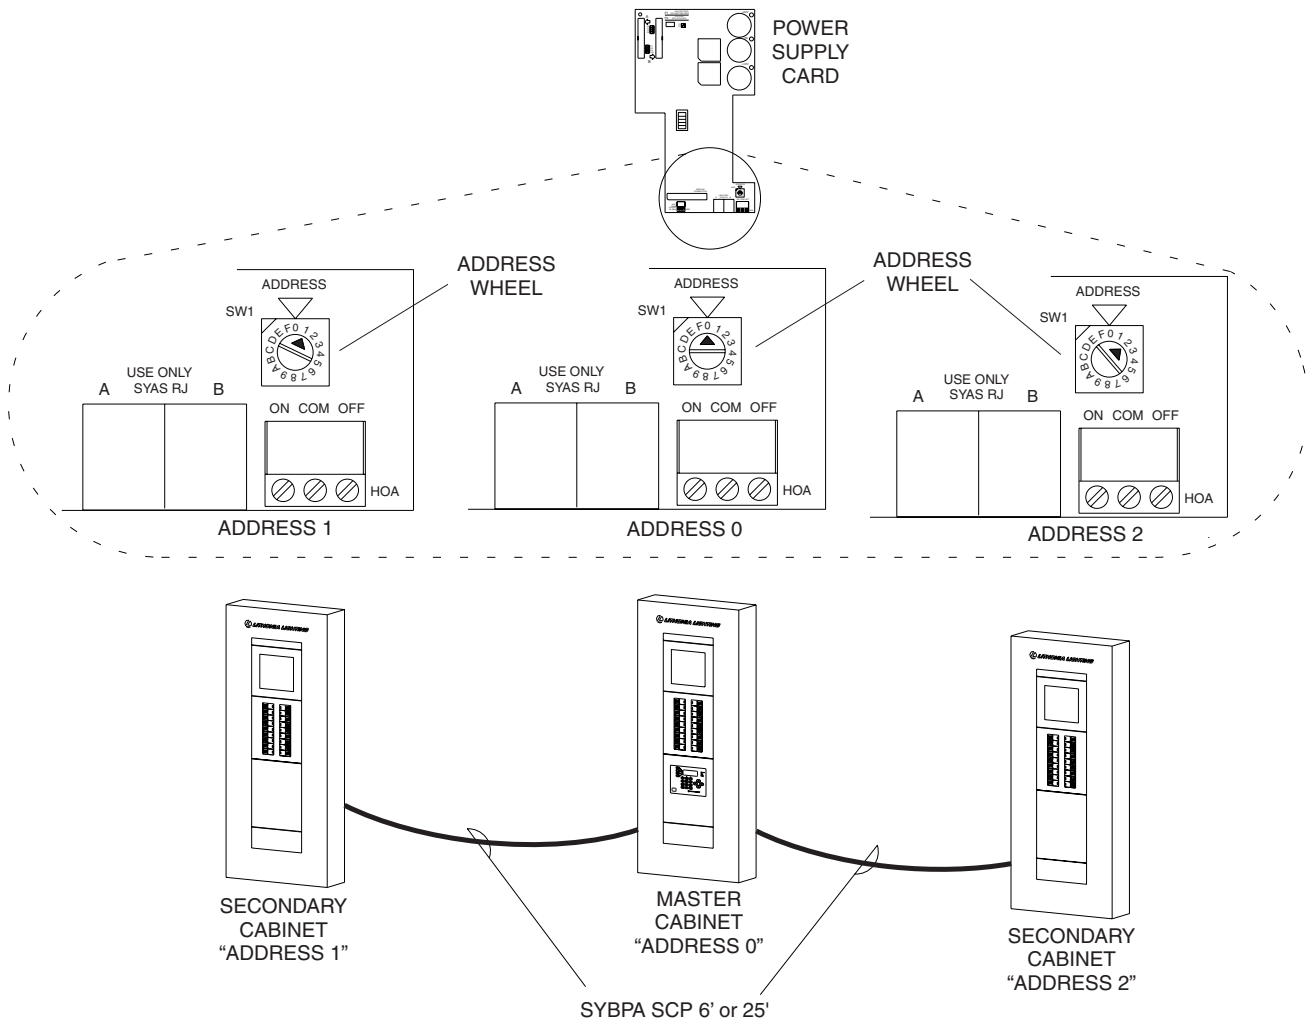

Figure 2 - Master/Secondary Details
3. Set the bus address wheel to the correct address, with each panel being at a unique address. The standard configuration has the master panel set at "0", and the other panels set at "1" and "2". (See Figure 2 for details)